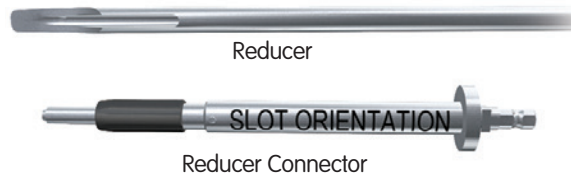

Figure 13
4. Connect the Reducer and Reducer Connector (71674077) so that the words "Slot Orientation" on the connector are in line with the opening at the Reducer's tip (Figure 13).